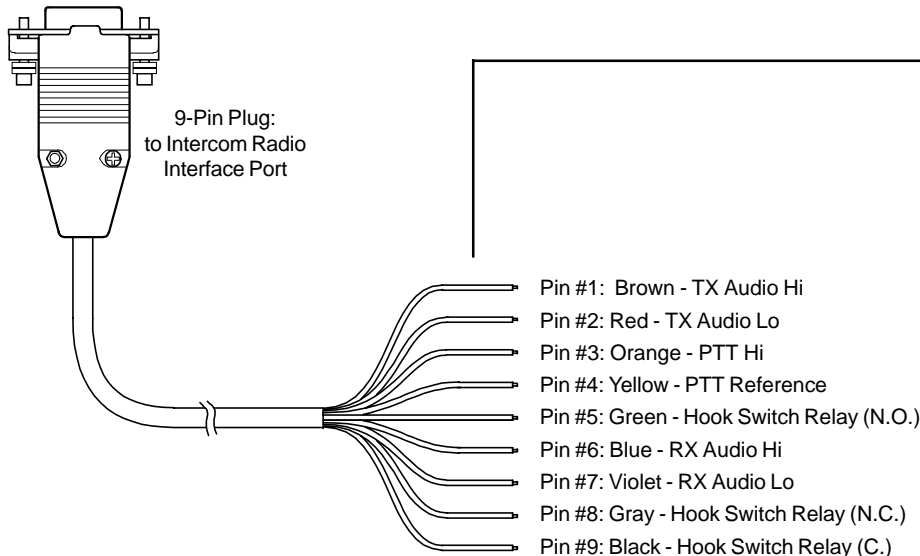

FIGURE 17
- Using the information in Figure 17, connect the wires on the MR-0X Mobile Radio Interface Cable to the appropriate places on the 2-way radio.